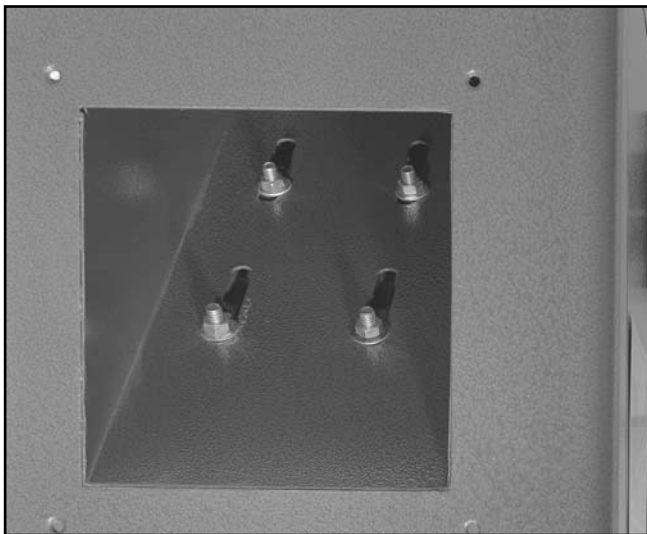

Figure 8. Motor mounts inside dust chute.
1. Loosen the motor mount bolts located inside the dust chute and slide the motor up until you can attach the V-Belt to the pulleys. **See Figure 8.**